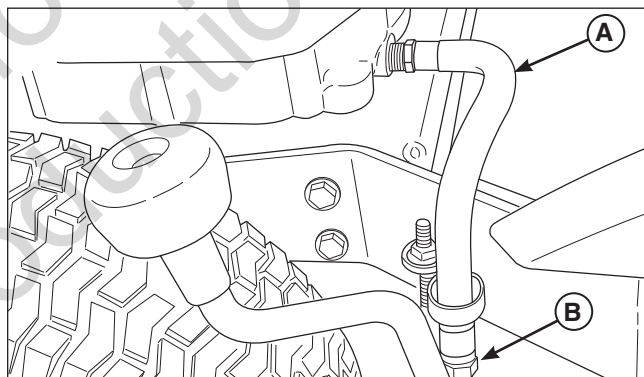

Figure 6. Engine Oil Drain
3. Place a small pan under the oil drain hose to catch the oil. Using the appropriate tools, remove the cap (**B, Figure 6**) from the oil drain hose (**A**) and drain the engine oil.